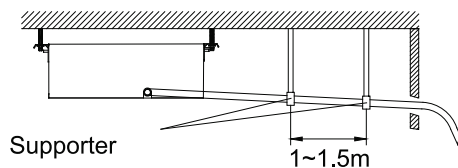

Figure 3-1-9
- (3). When the hose is long, install supporters.( Figure 3-1-9)
- (4). Always use the drain hose which has been insulated properly.